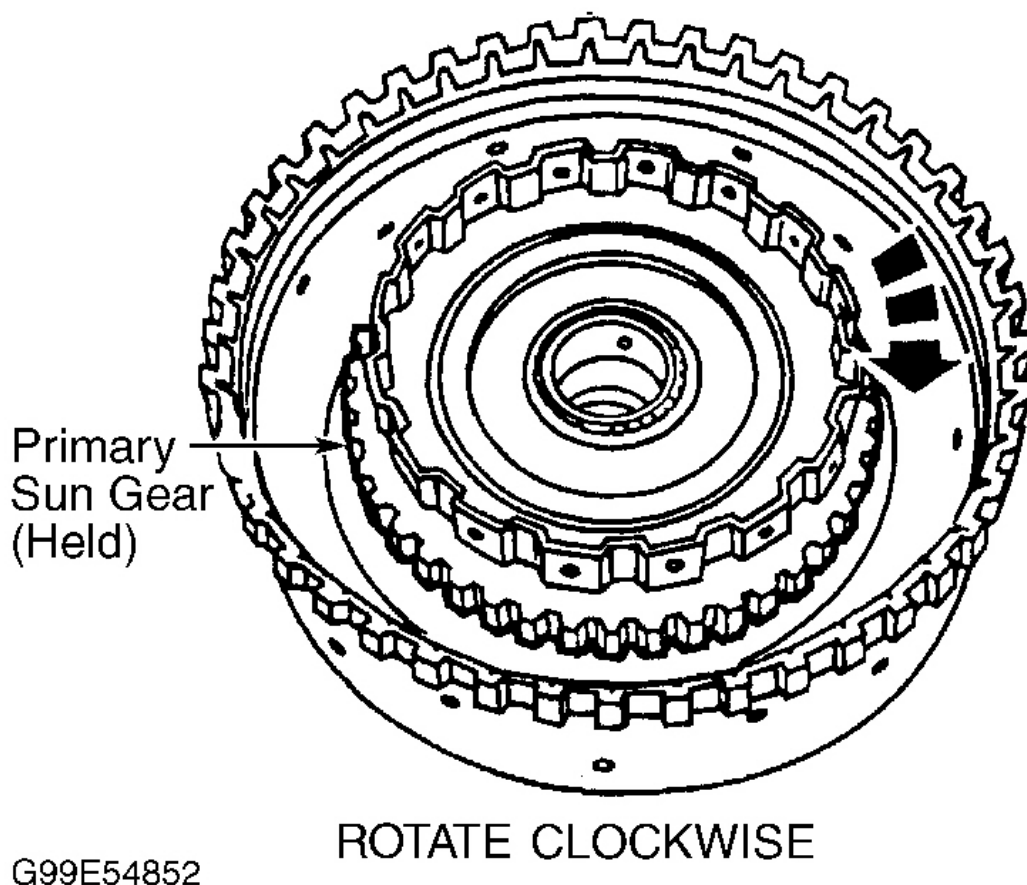

Fig. 25: One-Way (Sprag) Clutch Rotation (Assembled View)
4. Hold primary sun gear, and ensure one-way clutch rotates smoothly and clockwise only. See **Fig. 25**. Apply petroleum jelly to planet gear needle bearing race, and install bearing race to drum.